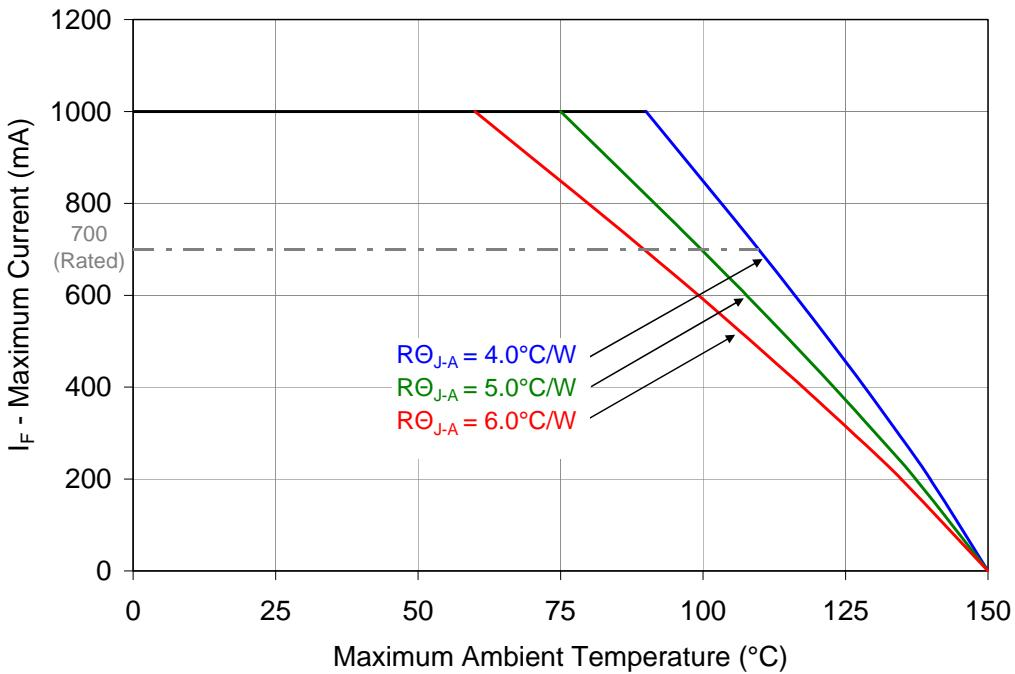

Figure 11: Maximum forward current vs. ambient temperature based on T_{J(MAX)} = 150°C.
1. Maximum DC forward current (per die) is determined by the overall thermal resistance and ambient temperature. Follow the curves in Figure 11 for current derating.
Notes for Figure 11: